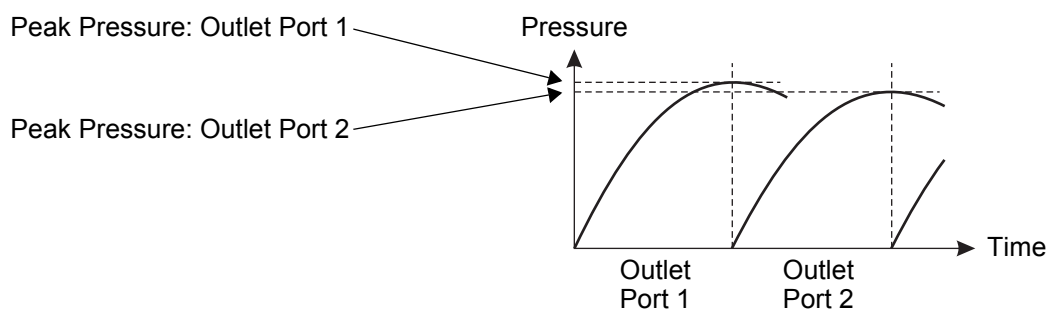

Figure 12 - Pressure-Time Inflation Graph
- 3.16 At the end of the initialisation process the pump compressor will start running, and the pressure gauge on the flow/pressure rig (Fig 10, Item 10) will show the increase in pressure on **Outlet Port 1**, as detailed in the pressure-time inflation graph, Figure 12.
- Note:** When the pressure on **Outlet Port 1** has reached its **peak** pressure (refer to Figure 12), the pressure on **Outlet Port 1** then starts to decrease slightly and the pressure on **Outlet Port 2** starts to increase.